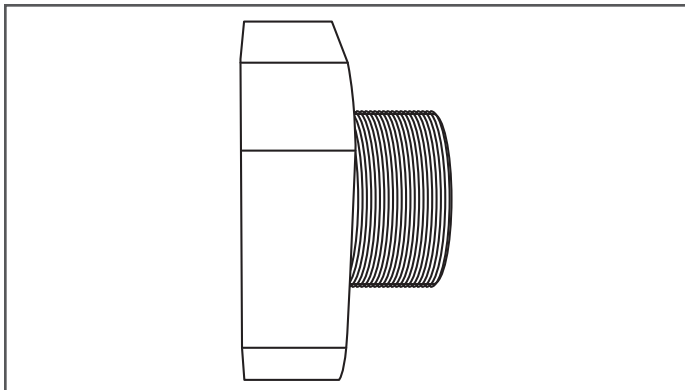

Figure 7-11
- 12.** Inspect front sections of DoubleTrac® fitting. Ensure the fitting does not have any damage to BSPT threads or front adaptor (Figure 7-11).